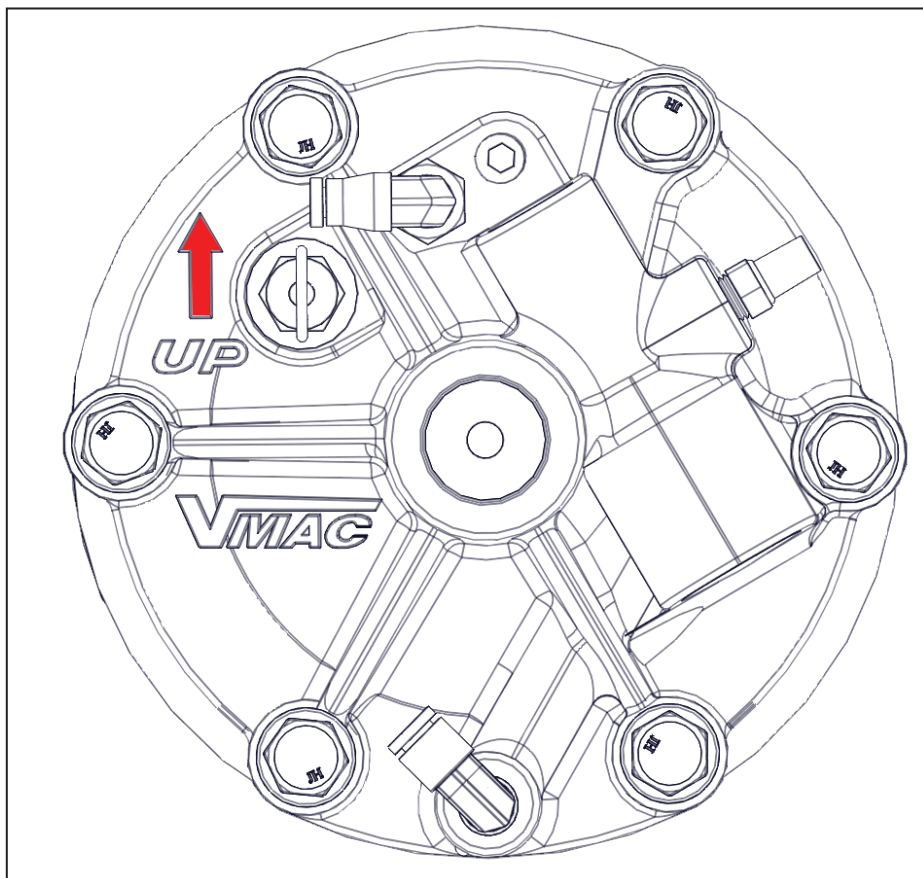

Figure 49 — Securing the AOST (Rear view)
- ☐ Rotate the tank so that the directional arrow on the rear of the tank is pointing upwards (Figure 49).